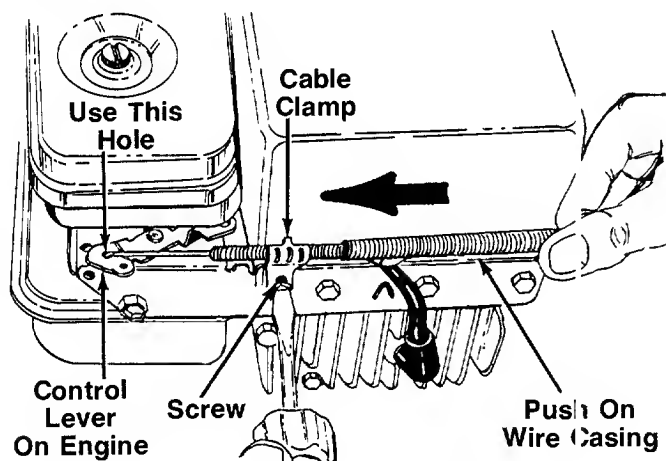

FIGURE 7.—Briggs and Stratton Engine
2. The throttle control cable is attached to the upper handle. Route the throttle control cable under the lower handle and inside the handle mounting bracket. Hook the "Z" end of the throttle control cable into the arm on the control lever on the engine which has two holes, using the **outside** hole as shown in figure 7.
3. Using a 5/16" wrench or nutdriver, remove the screw on the cable clamp shown in figure 7. Slip the control casing under the clamp. Replace the screw, but do not tighten (cable must still move freely beneath the clamp).
4. Place the throttle control lever on the engine in the full open position by pushing it toward outside of the unit. Push the wire casing on the throttle control cable toward the control lever on the engine as shown in figure 7 as you tighten the screw on the cable clamp.